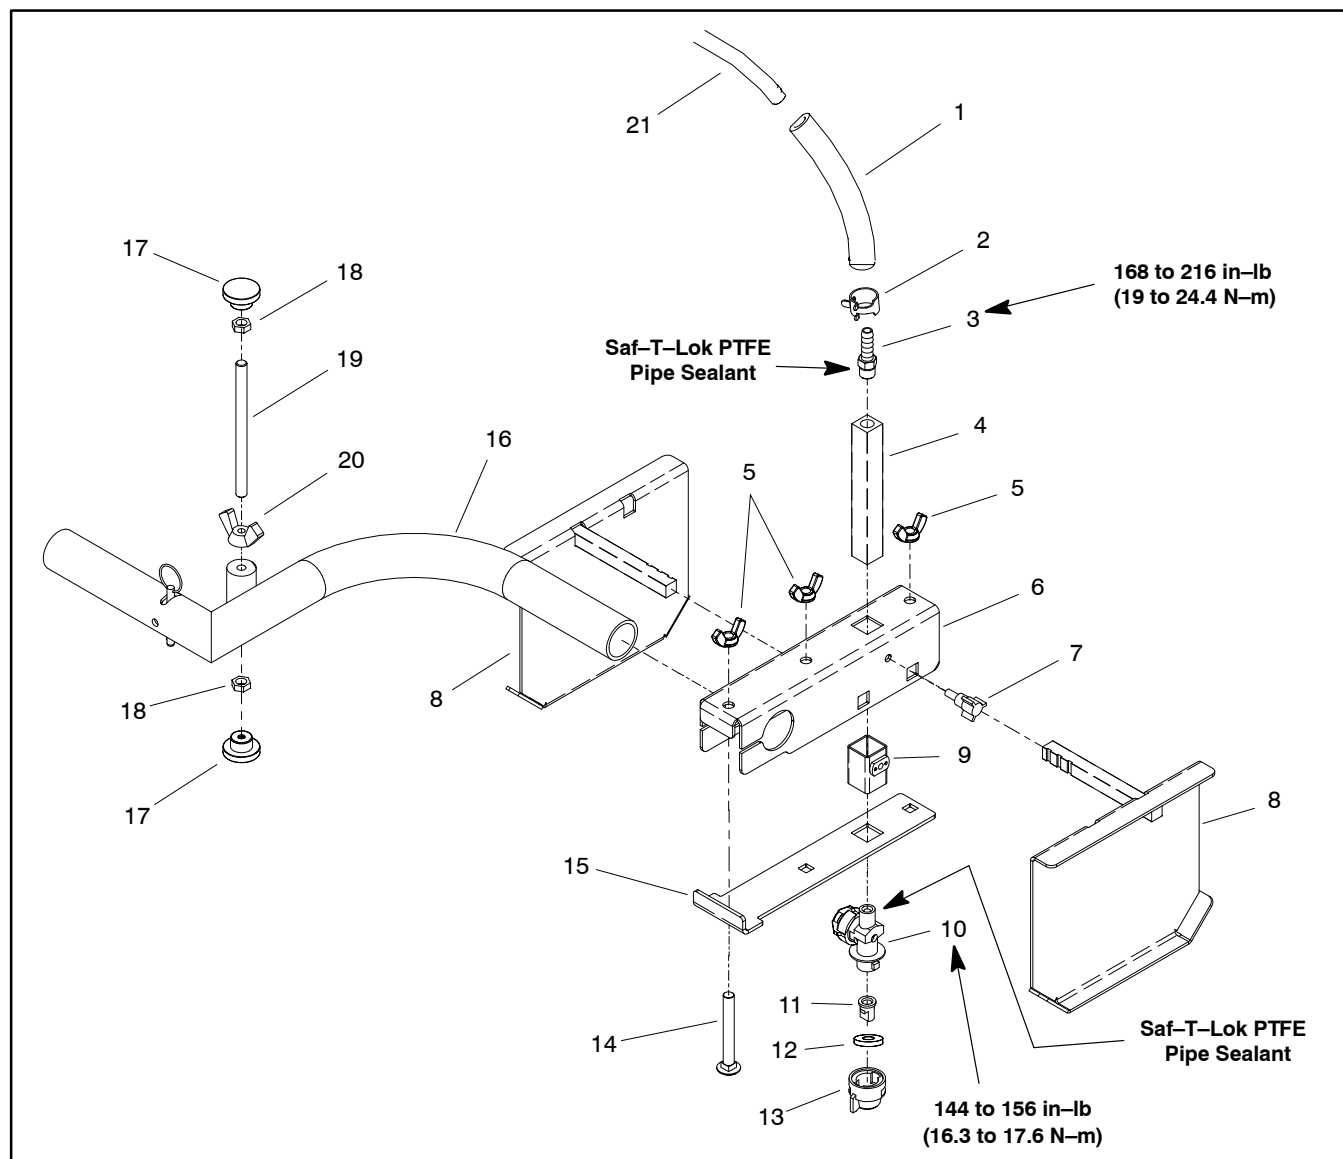

Figure 36
Disassembly (Fig. 36)
3. Remove spray head components as needed using Figures 36 and 37 as guides.
Assembly (Fig. 36)
1. Assemble spray head using Figures 36 and 37 as guides. If barb fitting (item 3) or diaphragm nozzle (item 10) were removed from nozzle tube, apply Saf-T-Lok PTFE Pipe Sealant (or equivalent) to threads of components before assembly (see Thread Sealant for Paint System Fittings in the General Information section).